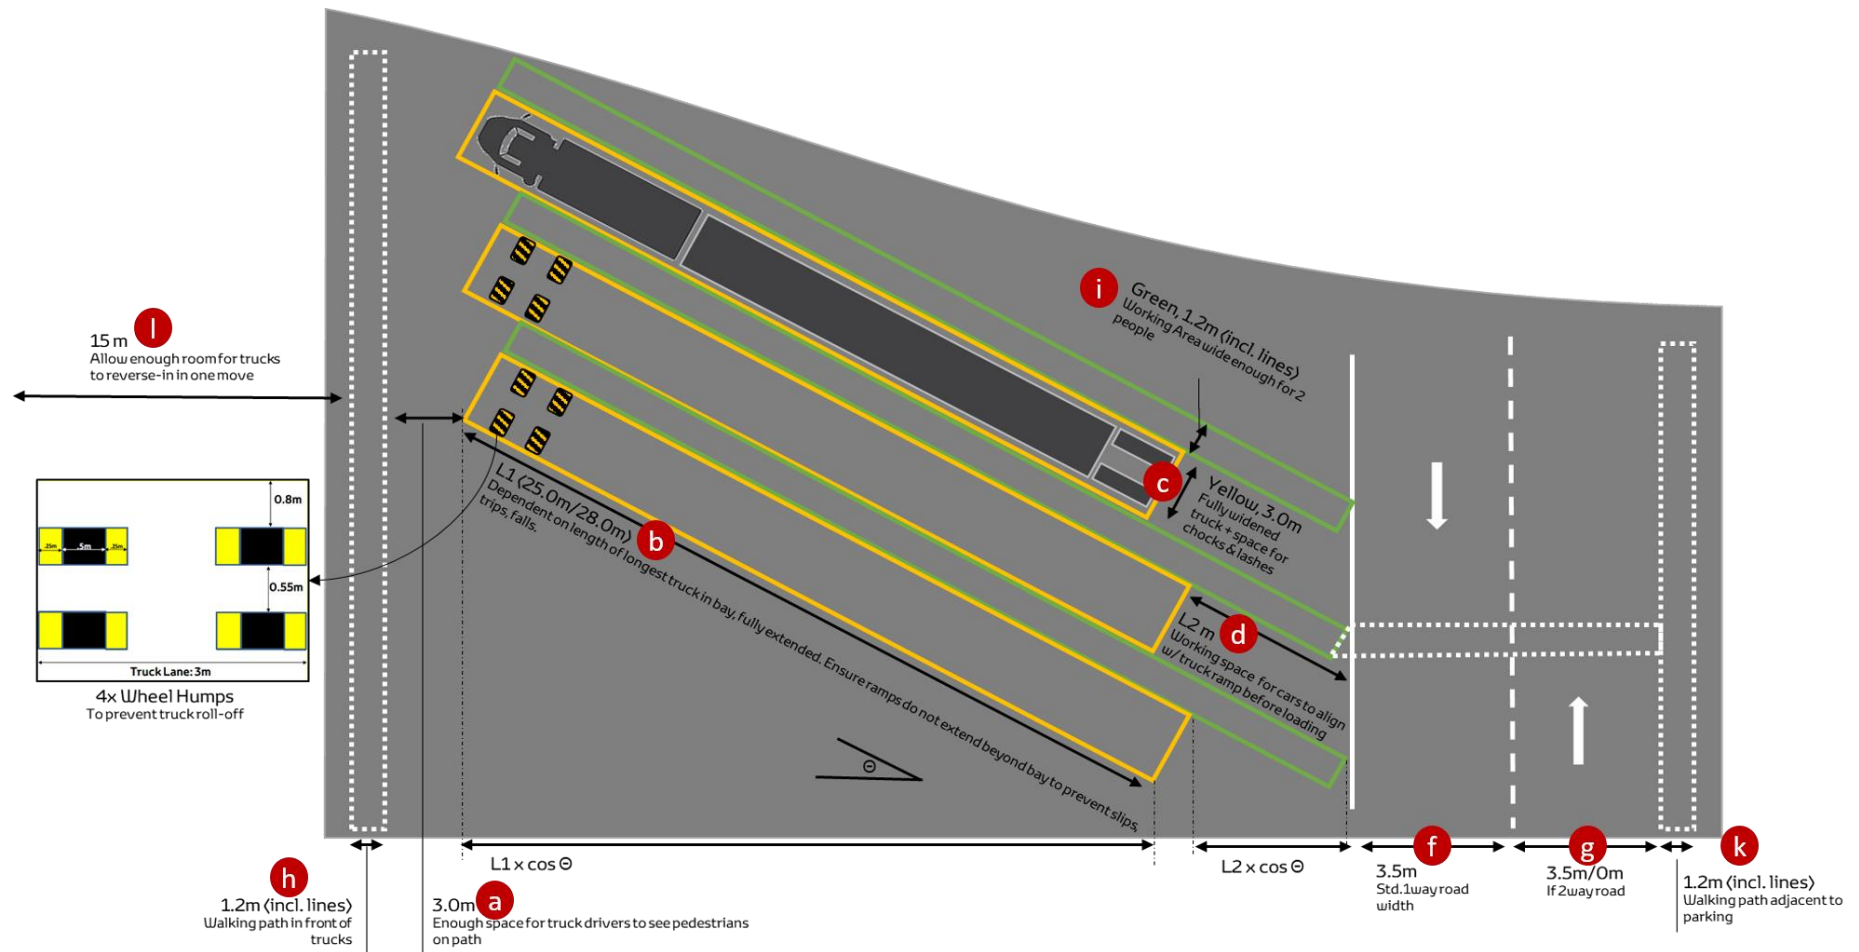

Figure 6c Layout of a truck loading area – angled-reverse-in type.
3. **Angled-reverse-in type** – Figure 6c